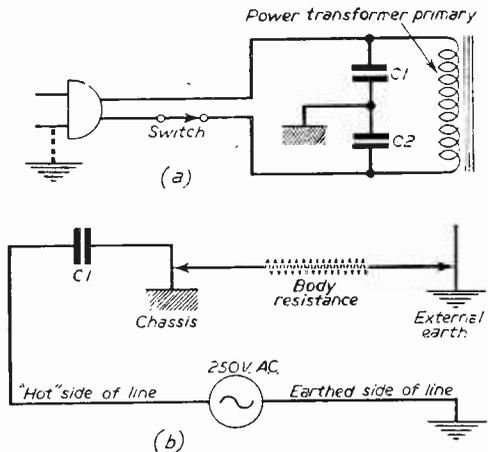

Fig. 10.—Actual and equivalent circuits of power transformer primary with respect to chassis and earth.
e. Haphazardly increasing the capacitance of a line filter capacitor in a set using a power transformer. This increases the potential shock hazard of the chassis and should be avoided. The line filter (Fig. 10) connects the chassis to external earth through the capacitor. This places the chassis at ground potential for signal voltages but does not connect the chassis directly to ground for 50-cycle A.C. Therefore, if the chassis and an external earth are touched simultaneously, as shown in Fig. 10(b), only a fraction of the line voltage is applied across the body and a correspondingly smaller shock results. In most cases the shock is not perceptible. The line voltage divides across the capacitive reactance of the capacitor and the body resistance in series. Naturally, the higher the capacitance, the lower the reactance and the more voltage across the body.